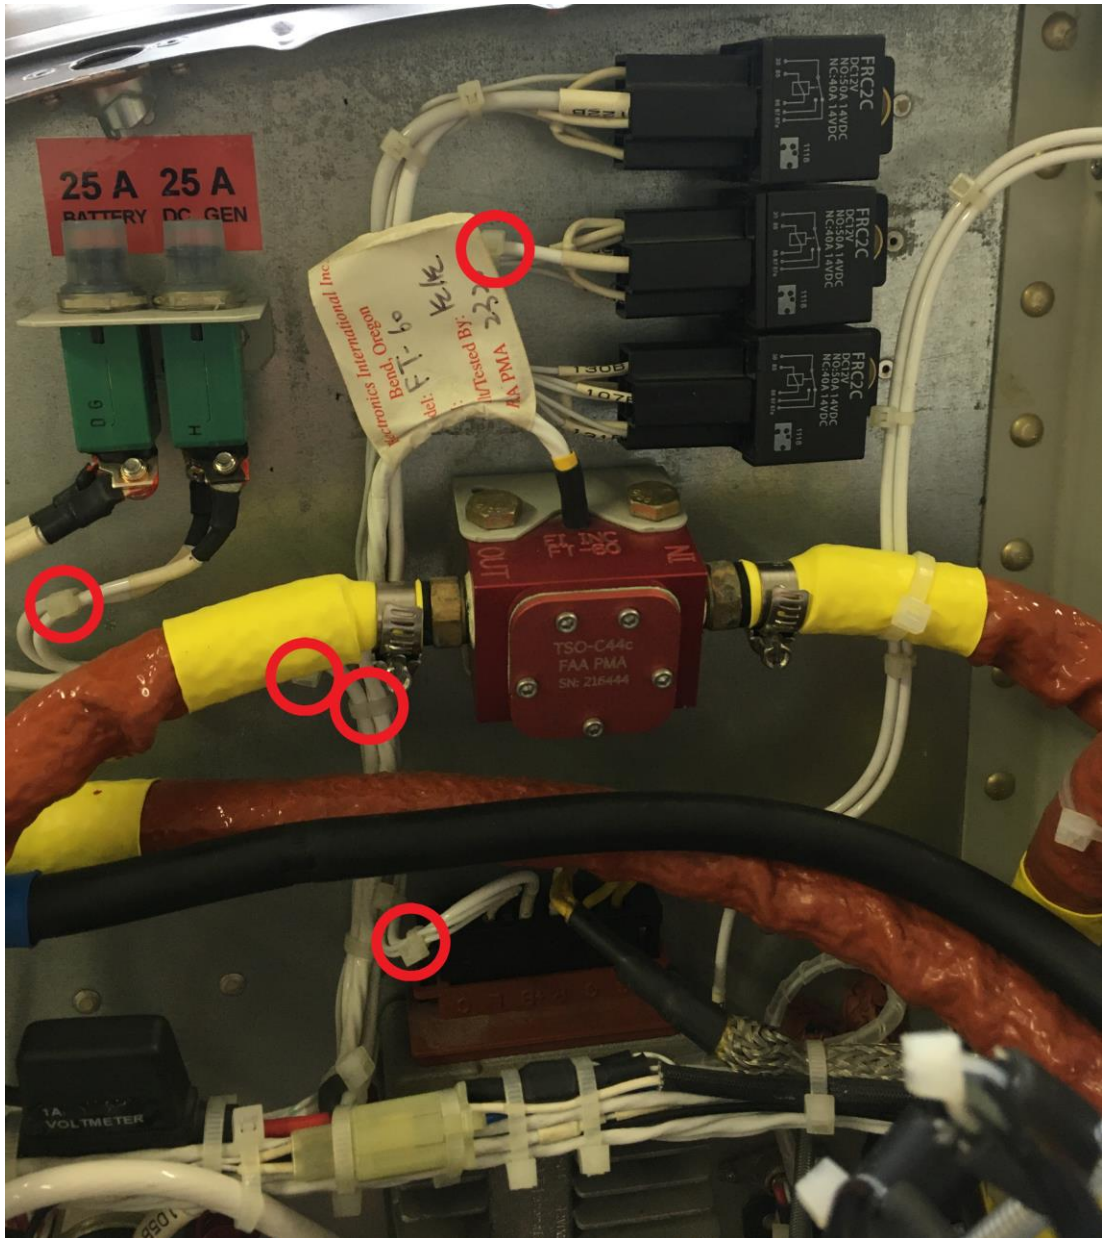

Fig. 4: Fasteners
- 3) Cut the zip ties according to the picture (See Fig. 4)